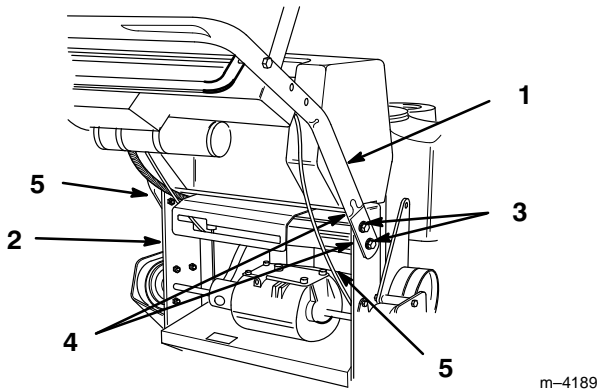

Figure 4
2. Secure each side with (2) 3/8 –16 x 1" (26mm) flange bolts and flange nuts (Fig. 4). Torque bolts to 25 ft. lbs. (34 N.m).
3. Route cables and wire harness inside of frame (Fig. 4)